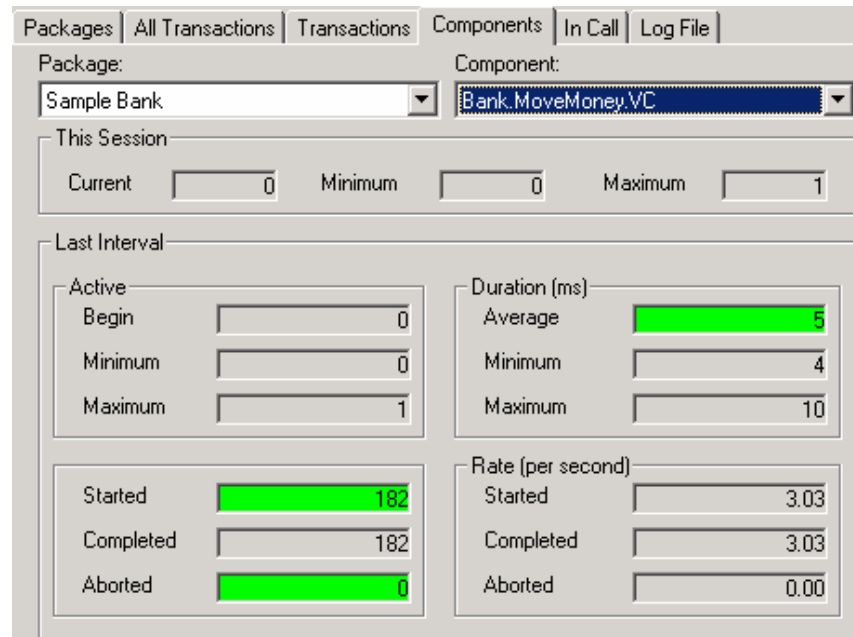

Figure 14
- Next select the **Components** run-time panel. The Components Runtime Panel enables the user to select the metrics to be displayed by component (see Figure 14).